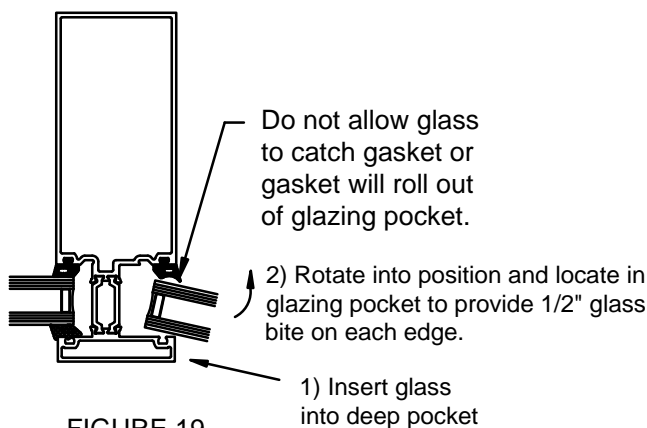

FIGURE 19
- 3.5 Set glass in opening from the exterior. When using Type I vertical mullions, place one edge of the glass into the deep pocket of the vertical. Swing the glass into the adjacent vertical pocket, ensuring that the glass bite is equal on all sides. See FIGURE 19